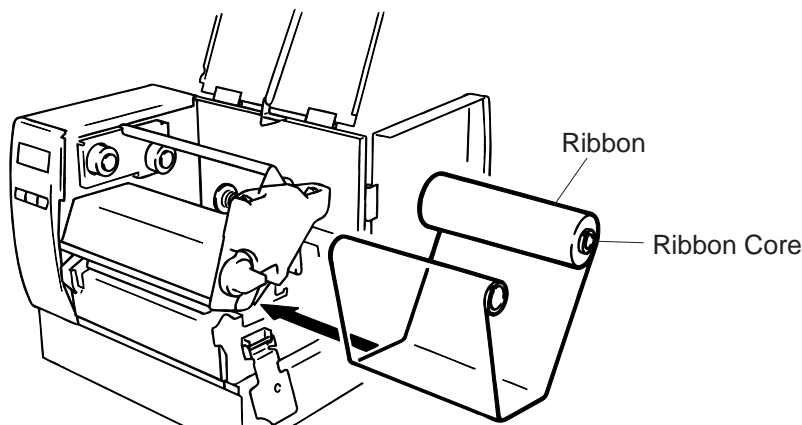

Fig. 7-2
- ①: Labels or thin tag paper
- ②: Thick tag paper
3. As Fig. 7-2 shows, unroll and loosen the ribbon a little.